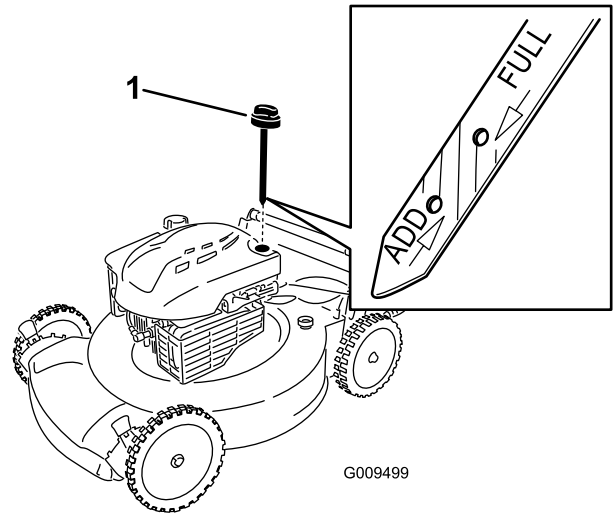

Figure 4
2. Slowly pour oil into the oil fill tube until the oil level reaches the Full line on the dipstick (Figure 4). **Do not overfill.**
1. Remove the dipstick (Figure 4).